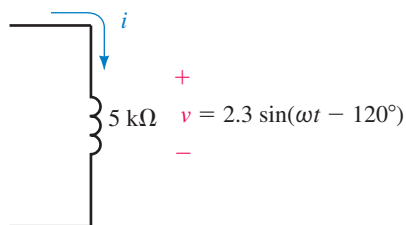

FIGURE 18-81
- For the component shown in Figure 18-81: